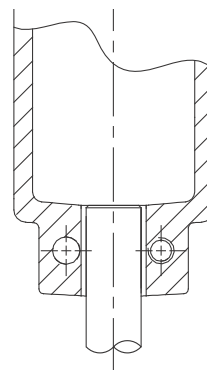

Fig. 2 Coupling
Fit the coupling (pos. 10a) on the shaft so that the top of the pump shaft is flush with the bottom of the clearance chamber in the coupling. See fig. 2.